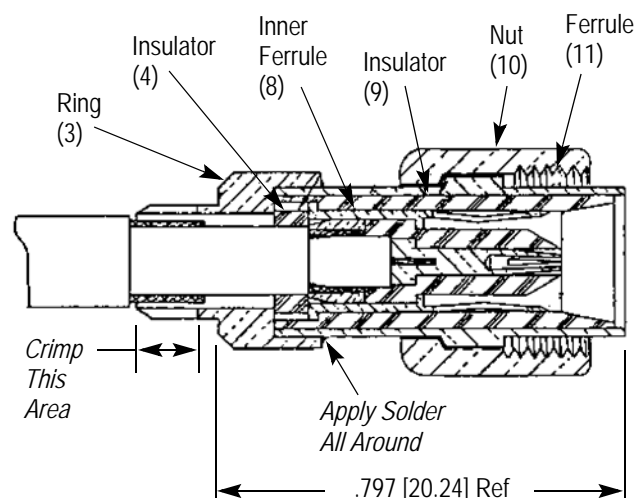

Figure 6
Position nut (10) and ring (3) as shown in Figure 6.
Using small pliers, crimp slotted section of ring (3) as shown in Figure 6.